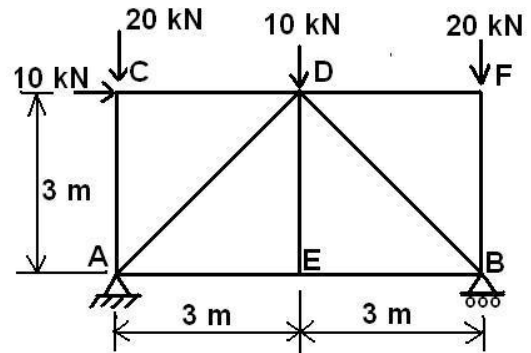

Fig. 2
- (b) Find horizontal deflection at point C for the truss shown in figure.2 Castigliano's first theorem. Take  $EI= 2.1 \times 10^5 \text{ N/mm}^2$ ,  $A=500 \text{ mm}^2$ . **07**